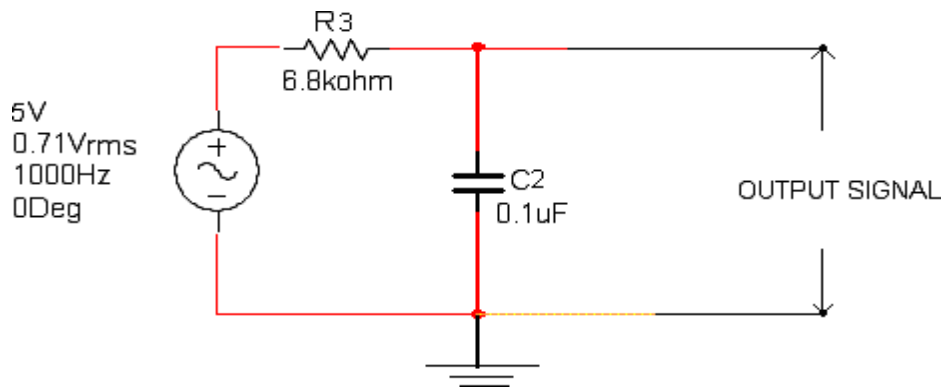

Fig.4.2. De-emphasis circuit
5. Repeat above steps 2 to 4 for de-emphasis circuit (shown in Fig.4.2). by applying the sinusoidal signal of 5V as input signal